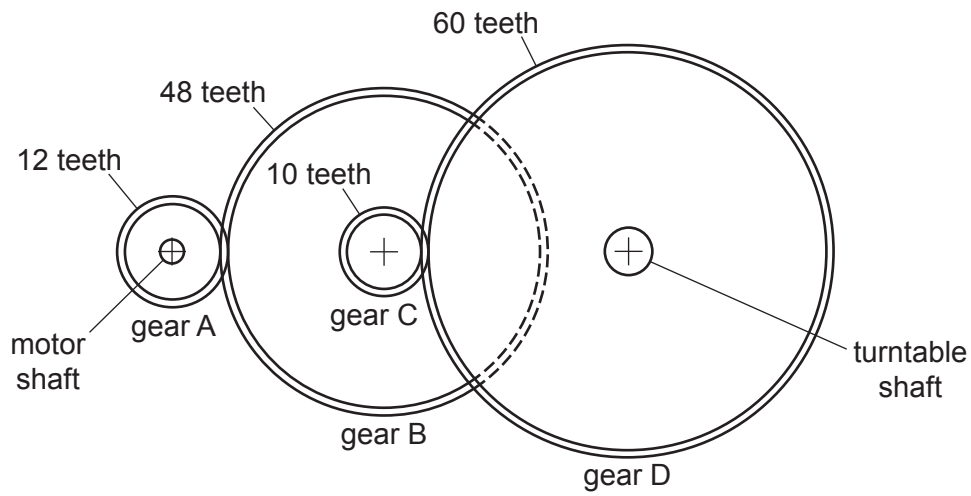

Fig. 1.4
- (d) The microwave oven shown in **Fig. 1.1** uses a rotating turntable inside for the food/liquid to sit on. This turntable is driven by a motor and a compound gear train as shown in **Fig. 1.4**.